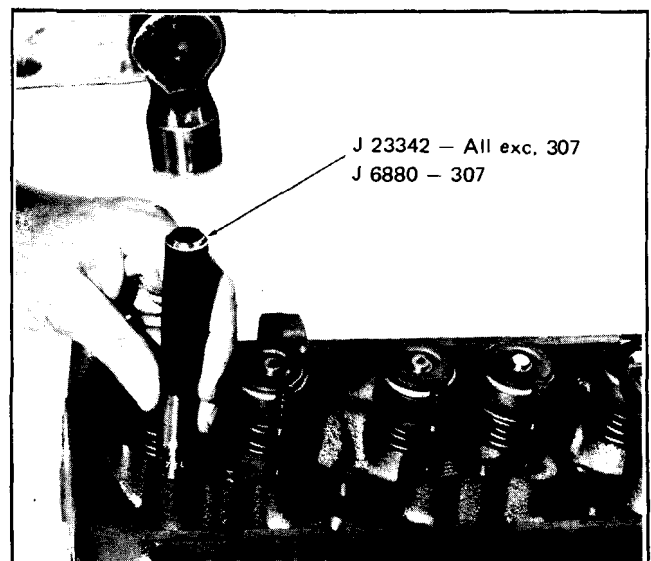

Fig. 6-115 Installing Rocker Arm Stud
8. Carefully drive stud into cylinder head until tool J 23342 or J 6880 has seated on machined rocker stud boss (Fig. 6-115).